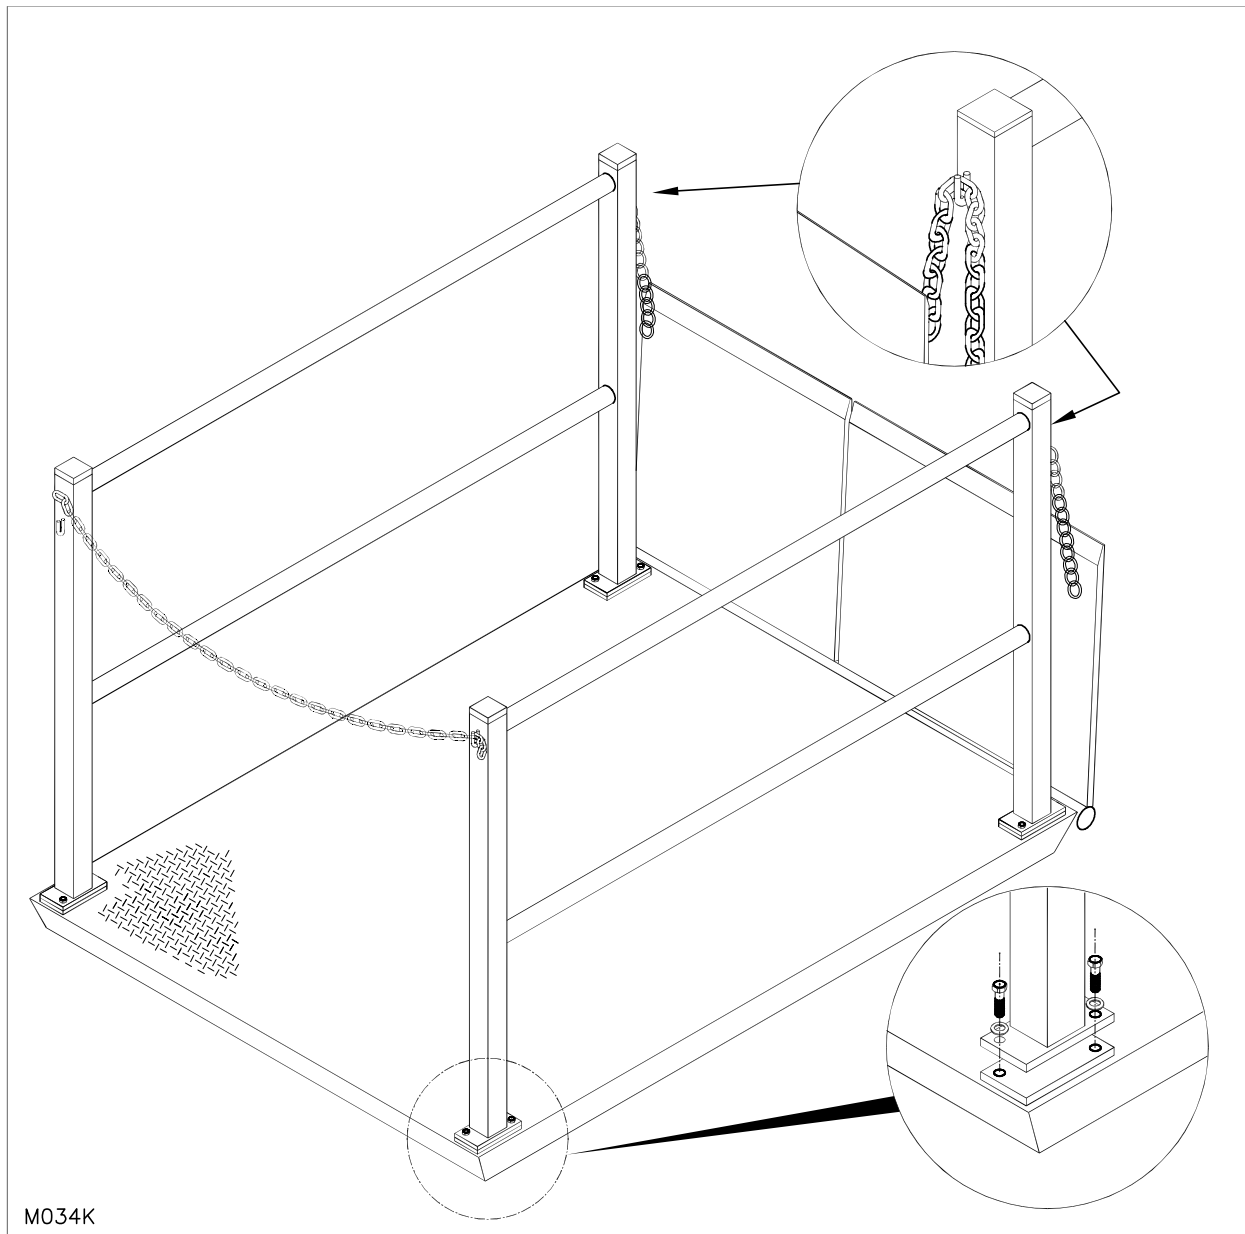

Figure 6: Guard Rail Installation
16. Install the guard rails as shown in “Figure 6: Guard Rail Installation” on page 11.